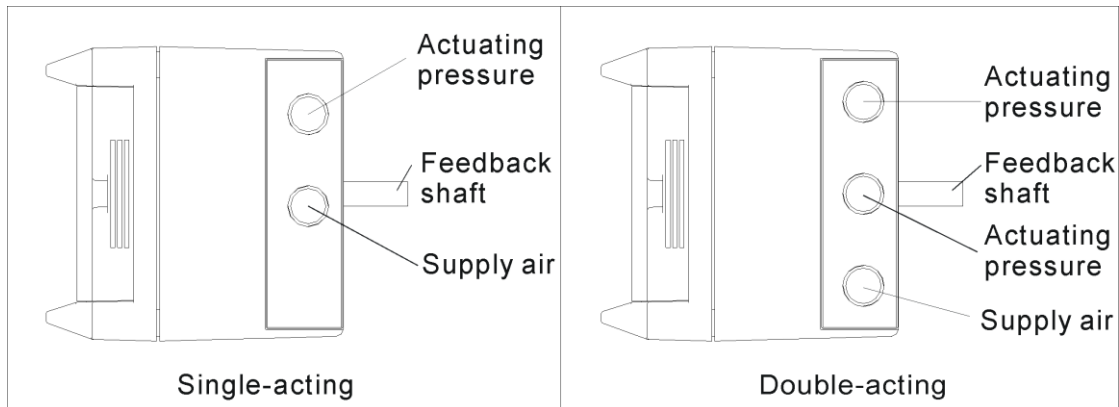

Figure 6: Pneumatic Connection
4.7.1 Input electrical connection (Figure 6)